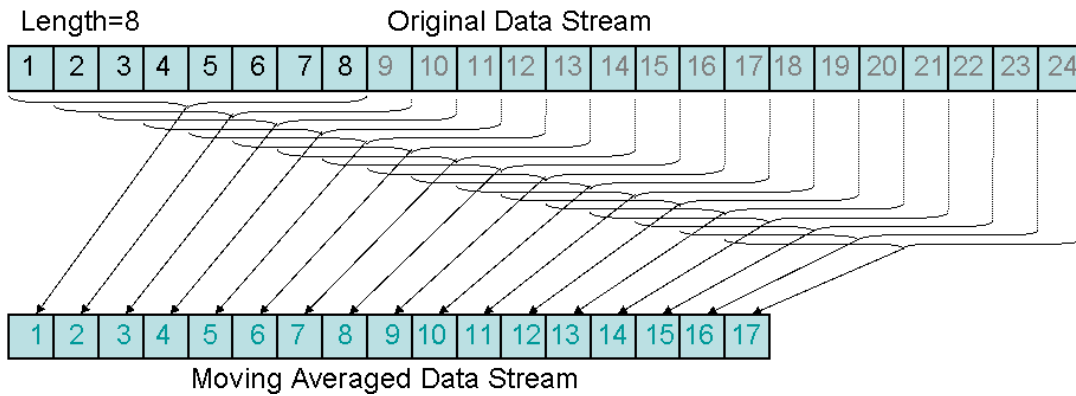

Figure 1: Moving Average
The V93000 SOC Test System provides a DSP API for the moving average. It is DSP_MOVAVG(). This API performs summing of a certain period of data which is divided by the summing length. Figure 1 depicts how the 24-point (N) input data stream is averaged with the window length 8 ($Length$). Each 8-point segment is accumulated and divided by 8 step by step. As shown in the figure, the valid number of data is reduced as 17 ($N-Length+1$) eventually. So applying moving average, you need to capture data longer by " $Length$ " points than you need at the end.